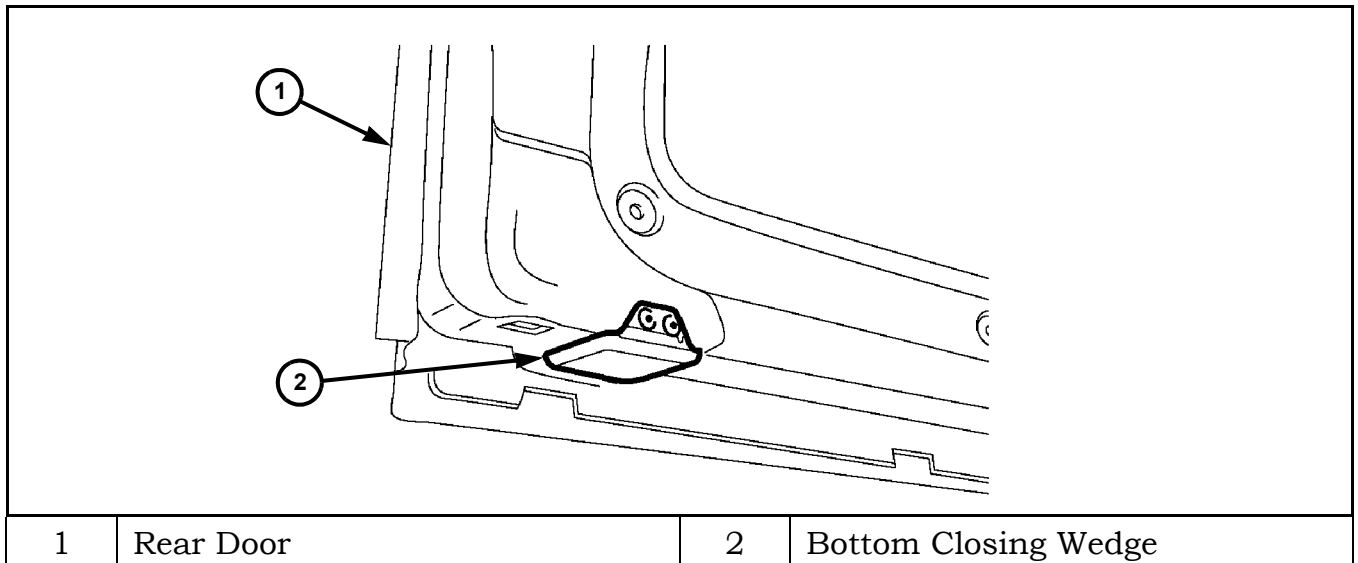

Figure 21 Rear Door Bottom Closing Wedges
4. Adjust rear door so that bottom closing wedges (Figure 21) make contact and door gaps are uniform all the way around. Tighten socket-head torx bolt to 25 N·m (18 ft. lbs).
- Check adjustment of rear door closing wedges (See Figure 21). Closing wedges at bottom must be resting free of play on plastic closing plates when rear doors are closed. To adjust, loosen door hinges and raise or lower complete doors.